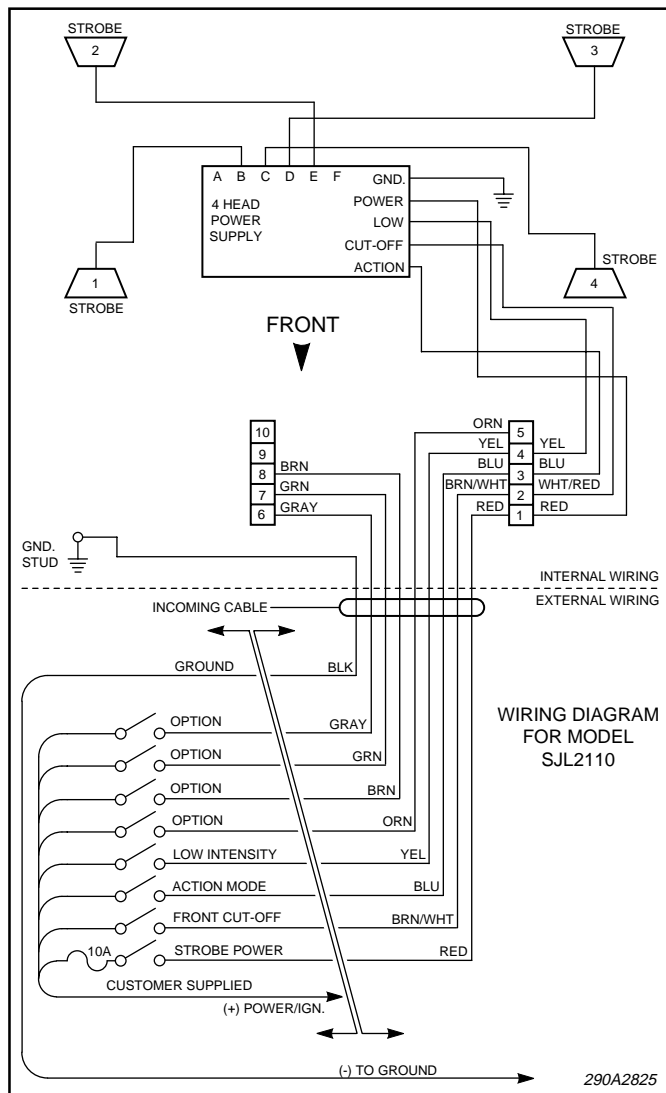

Figure 1.
2. For proper light operation, the control cable must be properly terminated inside the user-supplied control head. Using the appropriate wiring diagram (figures 1 through 5) as a guide, make the appropriate electrical connections shown in Table 1. Ensure that an adequate fuse is installed as shown in the appropriate figure.